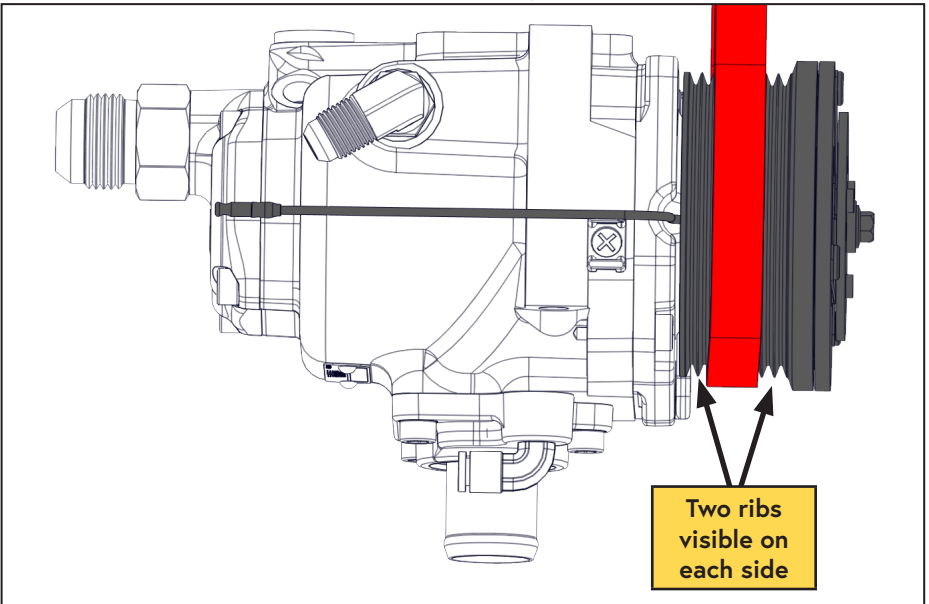

Figure 27 — Align belt on clutch
- Ensure the 4 rib belt is centered on the 8 rib compressor clutch. Two clutch ribs should be visible on each side of the belt (Figure 27).